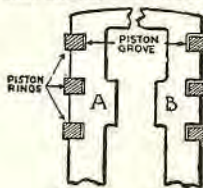

Fig. 27
The piston ring should fit snugly, as at (A) (Fig. 27), but should still be free to slide in and out easily; if it binds in any place, dress the sides down as in Fig. 30.